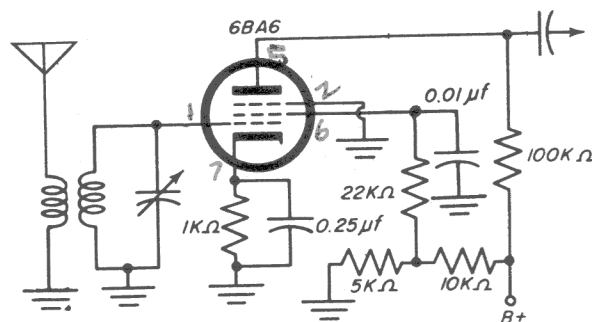

Fig. 27-14
Step 7. Measure the voltages at the various tube electrodes as called for in Table C, and compare them with the normal operating voltages given in the table. If there is a discrepancy of much more than 20 percent, find the trouble by checking against the schematic diagram of Fig. 27-14 before you proceed with the experiment.